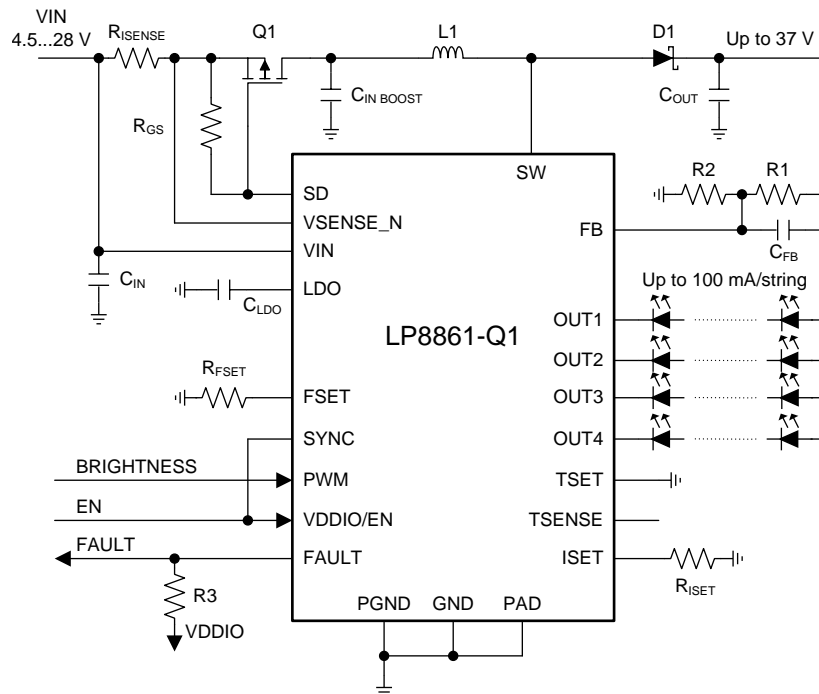

Figure 24. Typical Application for Four Strings 100 mA/String Configuration
The LP8861-Q1 has a control pin (SD) for driving the gate of an external power-line FET. Power-line FET is an optional feature; an example schematic is shown in Figure 24. Power-line FET limits inrush current by turning on gradually when the device is enabled ($VDDIO/EN = \text{high}$, $V_{IN} > V_{GS}$). Inrush current is controlled by increasing sink current for the FET gradually to 230 μA.
Figure 24 shows the typical application for LP8861-Q1 which supports 4 LED strings with maximum current 100 mA and boost switching frequency of 300 kHz.